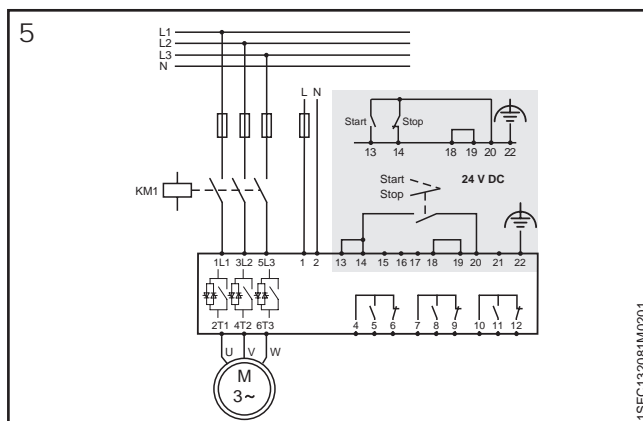

Figure 5: Circuit diagram PSTX30...PSTX370 (Fuse and contactor version)
6. Look at the diagram, **see Figure 5**, and connect the start/stop circuits: terminal 13, 14, 18, 19 and 20/21, with the internal 24V DC terminal. When using internal 24 V DC (terminals 20 or 21), the terminals 18 and 19 should be connected to each other. For external control circuit voltage, see chapter 5.1.2.3 **Start and Stop - terminals 13, 14, 18, 19, 20, 21.**